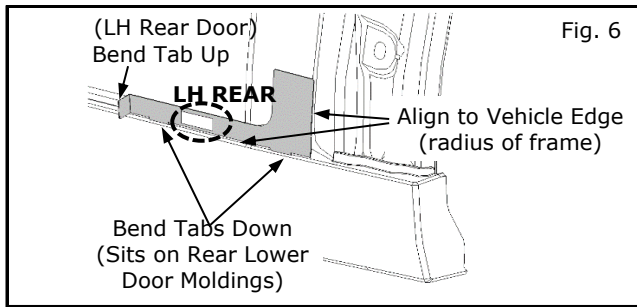

Fig. 6
**Before step 9, push out the tape window shown in Fig. 6 dotted circle area.**
- 9) LH Rear Template - Fold bottom tabs down and forward tab up and place template as shown. (See Fig. 6)
- 10) Align template edges as shown (Fig. 6) with rear door vertical edge and bottom of rear door.